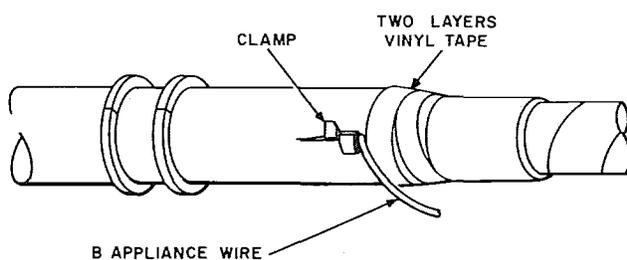

Fig. 11—Binding Tab Ends Down—Excess Tab Length Is Now Trimmed Off
3.13 Bind down the tabs with at least two layers of vinyl tape to hold the clamp firmly in place. Position the other inner clamp at the correct spacing and bind down the tabs. **Do not cover the projecting ears of the clamps** because this will prevent electrical connection with the splice case and bonding of the metal shield (Fig. 11). **Do not wrap tape over the clamping area. Tape buildup will interfere with the seating of the inner sheath clamp in the splice case halves.** After taping, remove the excess 1 inch of tab length.
not interfere with the wire joining operation. Remove 2 or 3 inches of insulation from each end of the wire and wrap around the ears of the inner sheath clamps (Fig. 11).